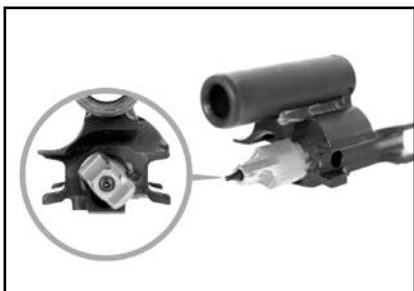

Fig. 40 – Assembly position
Observe assembly position of locking piece (Fig. 40).
4. Turn locking piece anti-clockwise until assembly position has been reached (Fig. 40).